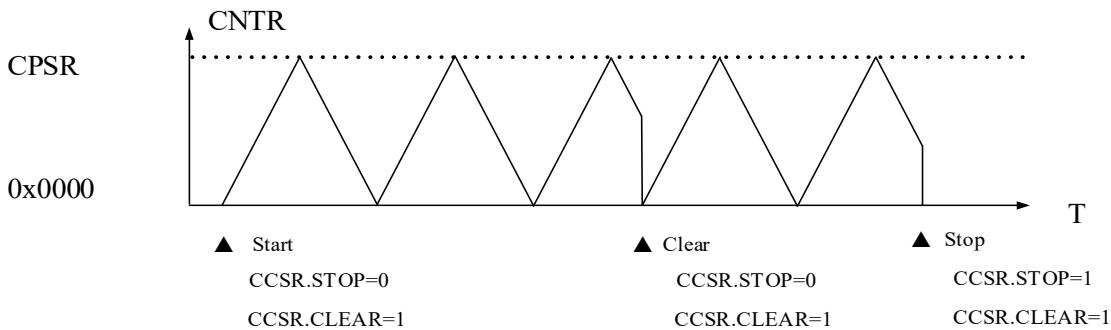

Figure 22-5 Timer4 triangle wave mode counting action
2. Triangular wave count operation and control process are shown as Figure 22-5.